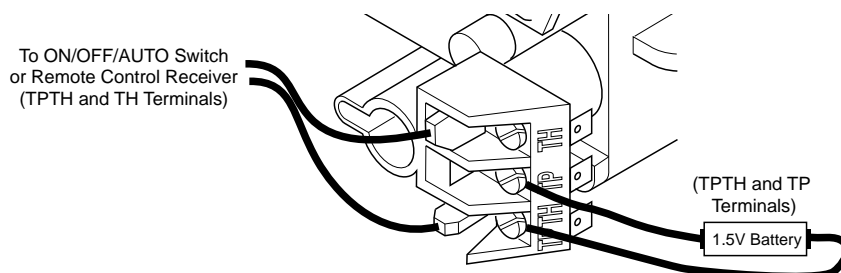

Figure 3 - Connecting Battery to Valve
1. With switch in OFF position, remove thermopile wires from valve (see Figure 3).